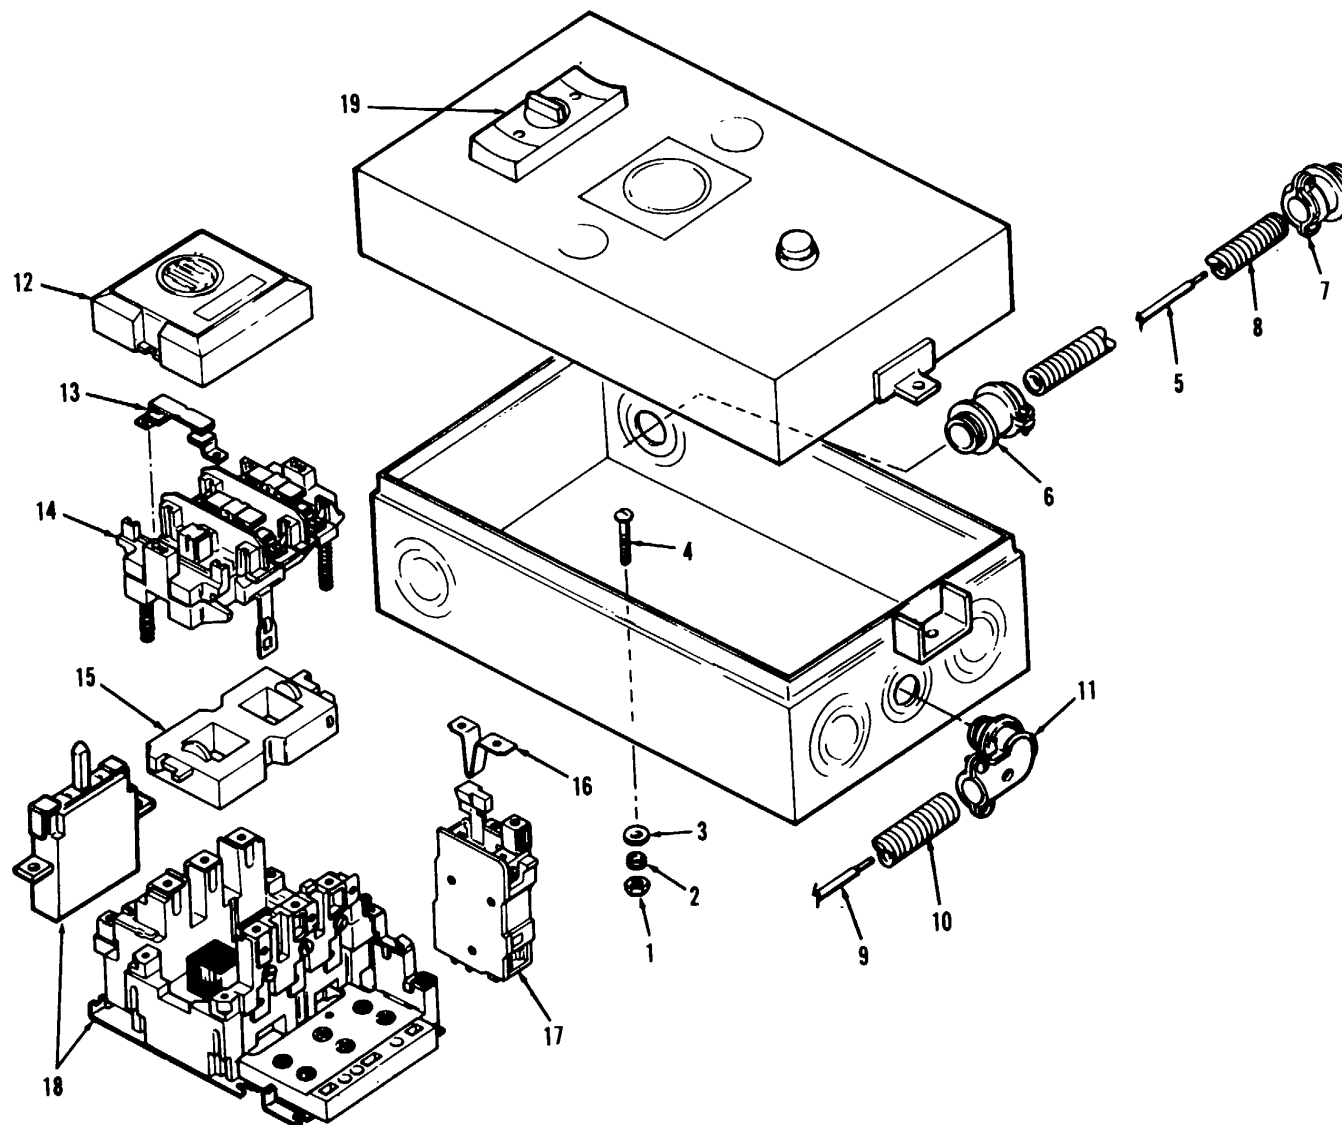

Figure 5-2. Magnetic starter assembly, exploded view.
<ul style="list-style-type: none"> <li>a. Disconnect main power source.</li> <li>b. Remove screw from bottom of magnetic starter box cover and remove the cover.</li> <li>c. Tag and disconnect all wiring.</li> <li>d. Use figure 5-2 as a guide and disassemble the magnetic starter assembly as follows: <ul style="list-style-type: none"> <li>(1) Remove connector (6) and (11) from the magnetic switch box.</li> <li>(2) Remove nut (1), lockwasher (2), flatwasher (3), and capscrew (4) and remove the control box.</li> <li>(3) Remove contact cap (12), contact kit (13), contact carrier (14), operating coil (15), coil heater (16), overload relay (17), and interlock assembly (18).</li> <li>(4) Replace any defective part.</li> <li>(5) Replace interlocking assembly (18), overload relay (17), coil heater (16), operating coil (15), contact carrier (14), contact kit (13), and contact cap (12).</li> <li>(6) Replace the magnetic control box with capscrew (4), flatwasher (3), lockwasher (2), and nut (1).</li> <li>(7) Replace connector (11) and (6) to the magnetic control box.</li> </ul> </li> <li>e. Reconnect all wiring.</li> <li>f. Replace magnetic starter box cover and install capscrew.</li> <li>g. Connect main power source.</li> </ul>